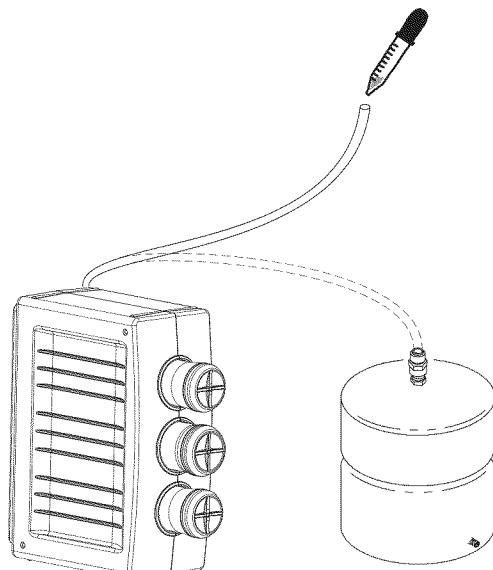

Figure 22
See Figure 22.
4. Add 3 mL of bleach into open end of yellow tank tubing. Handle bleach according to bleach manufacturer's recommendations. See Figure 22.